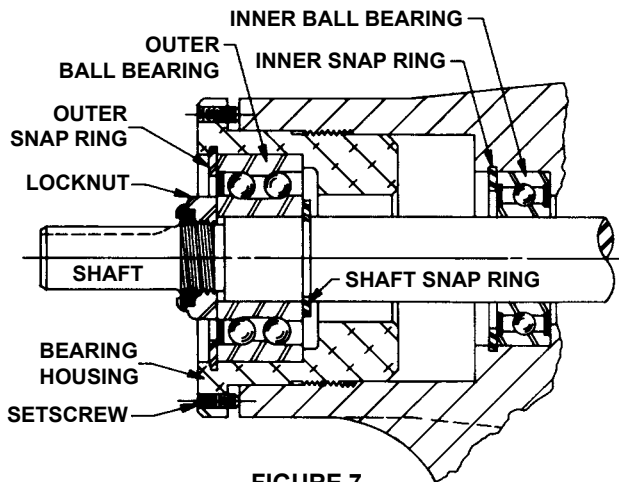

FIGURE 7
1. Refer to **Figures 7 & 8**, page 6, for model to be disassembled and name of parts.
6. Install the single row ball bearing in the casing. (For older models using single seal bearings, pack the ball bearing with multi-purpose grease, NLGI #2, and install in the casing with the sealed end towards the head end of the pump.) Install the inner snap ring in GG, HJ and HL size pumps. See **figure 7**, page 6.
8. Install the shaft snap ring in the groove in the shaft (GG, HJ and HL size pumps). See **figure 7**, page 6.
9. For models using single seal bearings, pack the lubrication chamber between the inner ball bearing and the double row ball bearing in the thrust bearing assembly approximately half full with multi-purpose grease, NLGI #2. See **figures 7 and 8**, page 6.
10. Pack the double row ball bearing with multi-purpose grease, NLGI #2 and press into the bearing housing with shield side toward the coupling end of the shaft. See **figure 7**, page 6. (AS, AK and AL size pumps do not use a shielded bearing). Install the snap ring to hold the bearing in place on GG, HJ and HL size pumps.
See **Figures 7 and 8**, page 6.